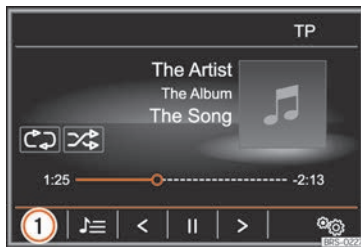

Fig. 205 MEDIA main menu.
- From the *Media* main menu, press the **[SOURCE]** function button **»»» Fig. 205** and select the desired media source.